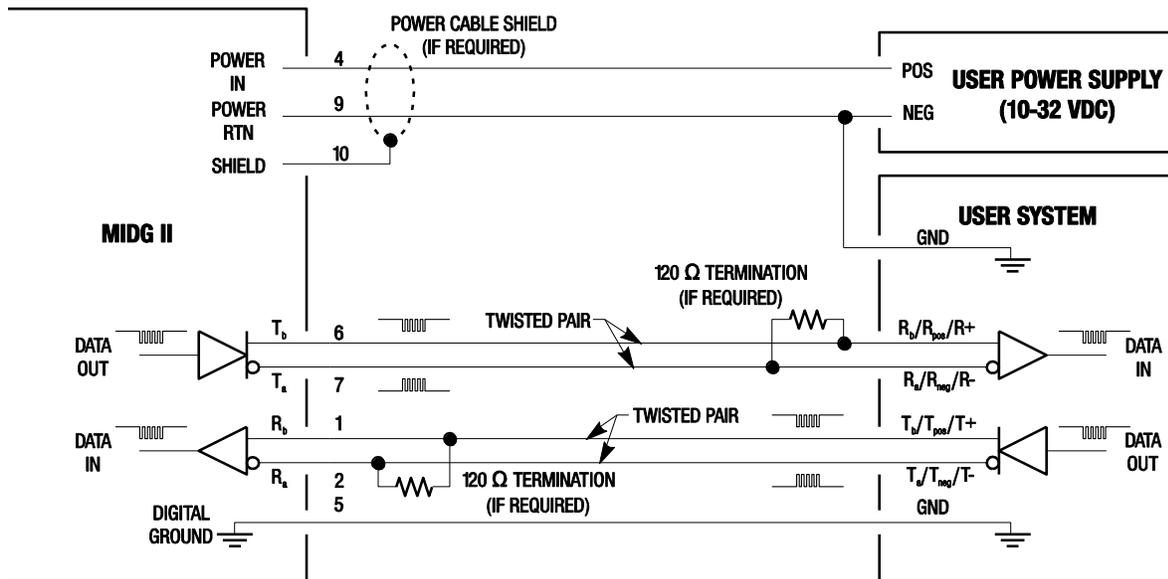

Figure 17. Typical RS-422 to RS-422 Data Connections
6.2 RS-422 Data Connections. The MIDG Series INS/GPS uses a RS-422 differential-mode asynchronous serial data stream for communications to and from the user's system. Figure 17 shows a typical RS-422 to RS-422 connection. As shown, there are five signal lines which are used for serial communications: *T_a*, *T_b*, *R_a*, *R_b*, and *GND*.